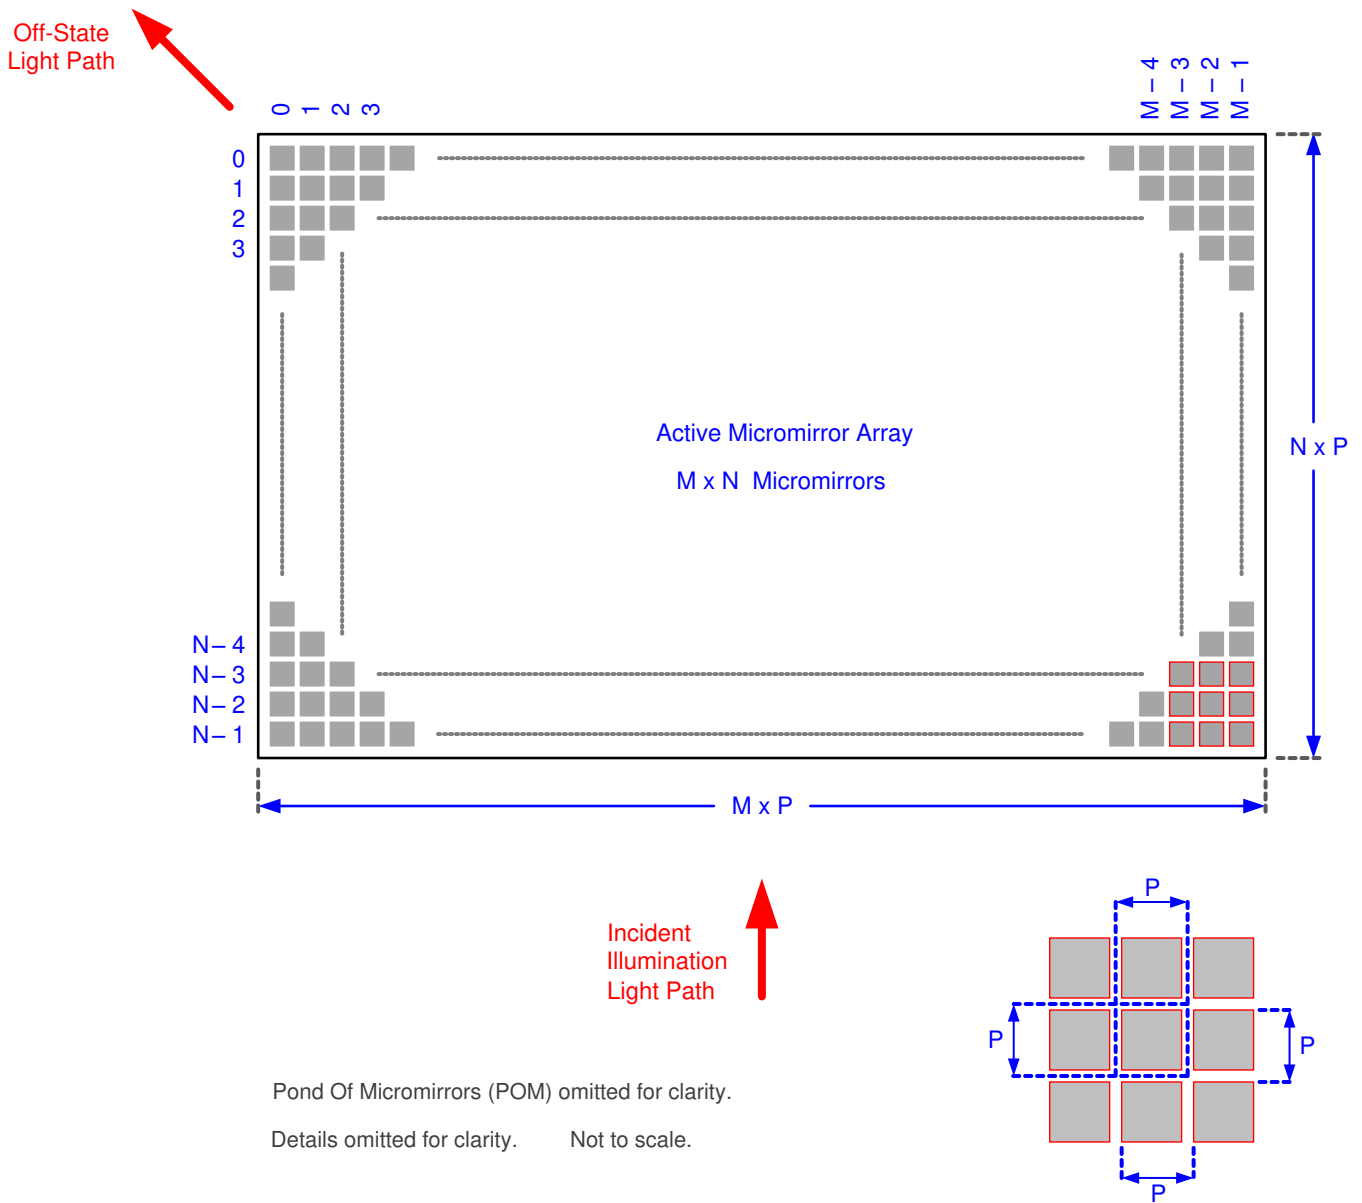

Figure 8. Micromirror Array Physical Characteristics
- (1) See Figure 8.
- (2) The structure and qualities of the border around the active array includes a band of partially functional micromirrors referred to as the *Pond Of Mirrors* (POM). These micromirrors are structurally and/or electrically prevented from tilting toward the bright or ON state but still require an electrical bias to tilt toward the OFF state.